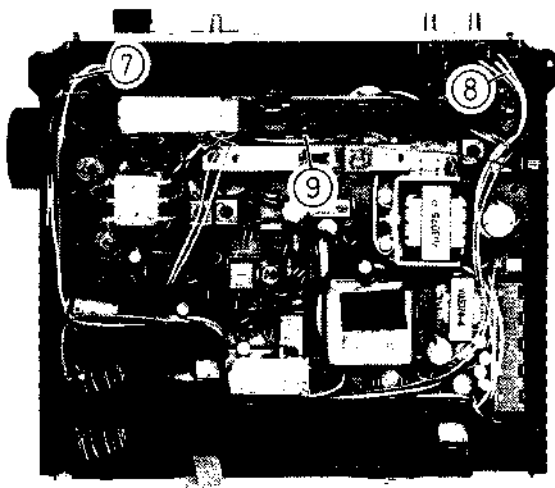

Fig. 2
REMOVE FRONT PANEL (Refer to Fig. 2)
REMOVE EACH SECTIONS (Refer to Figs. 2 & 3)
A. Main Circuit Board (Refer to Fig. 2)